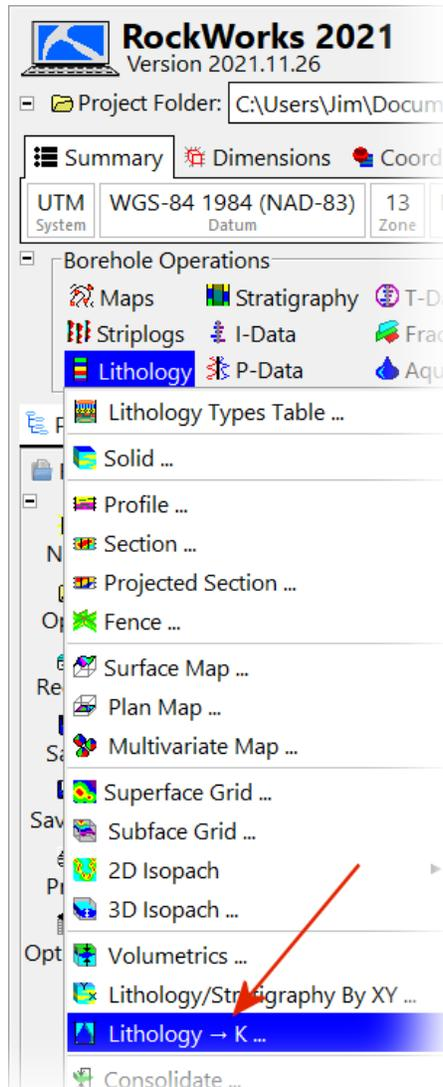

Figure 7
Step 7. Select the new Lithology->K option from the Lithology pull-down menu (Figure 7)